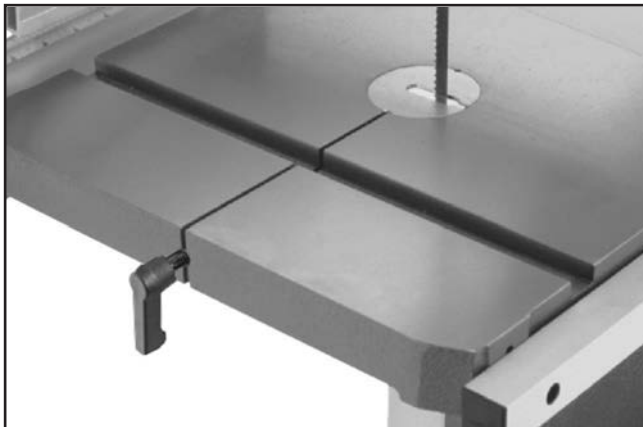

Figure 20. Table pin and insert installed.
17. Install the table insert and table pin, as show in **Figure 20**.